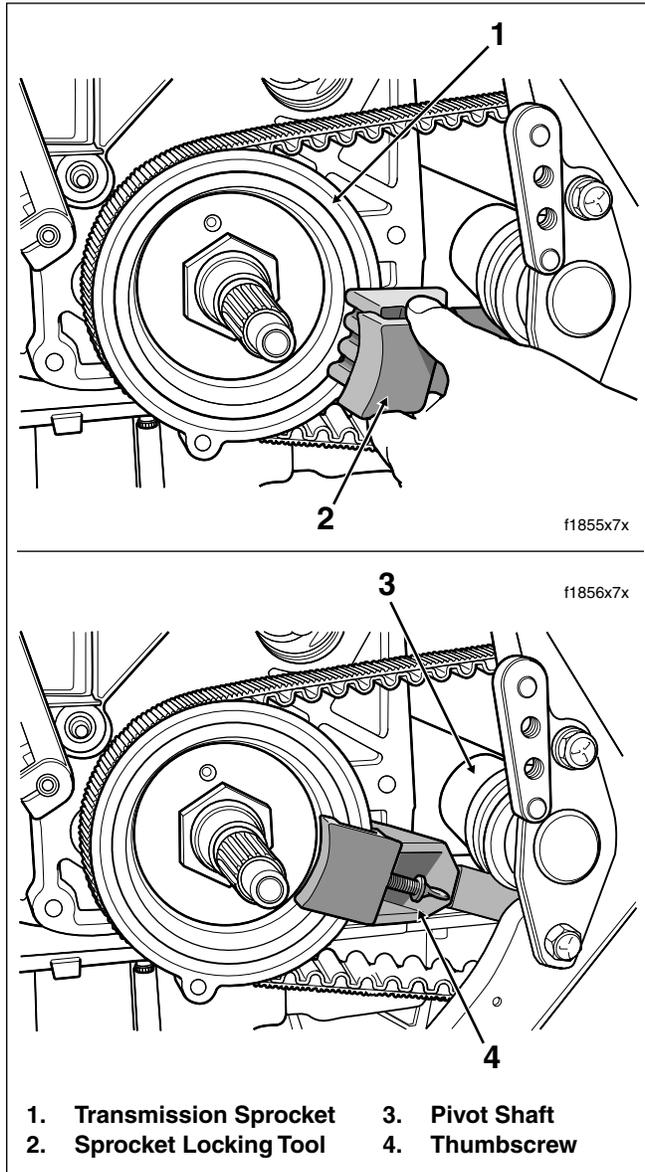

Figure 6-11. Install Final Drive Sprocket Locking Tool
- a. Insert handle of tool below pivot shaft inboard of bottom frame tube and attach to sprocket. See upper frame of Figure 6-11.
- b. Snug thumbscrew to lock position of tool on sprocket. See lower frame of Figure 6-11.